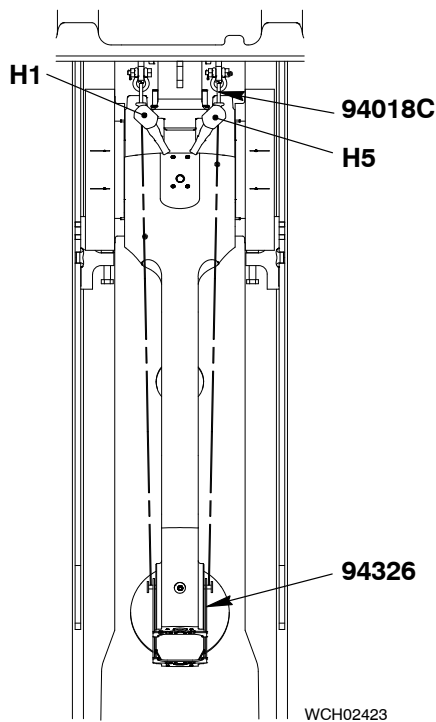

Fig. 6
- 1) Attach the manual ratchets (H1, H5 Fig. 6) and the shackle (94018C) to the column.
- 4) Apply a light tension the chains (Fig. 6).